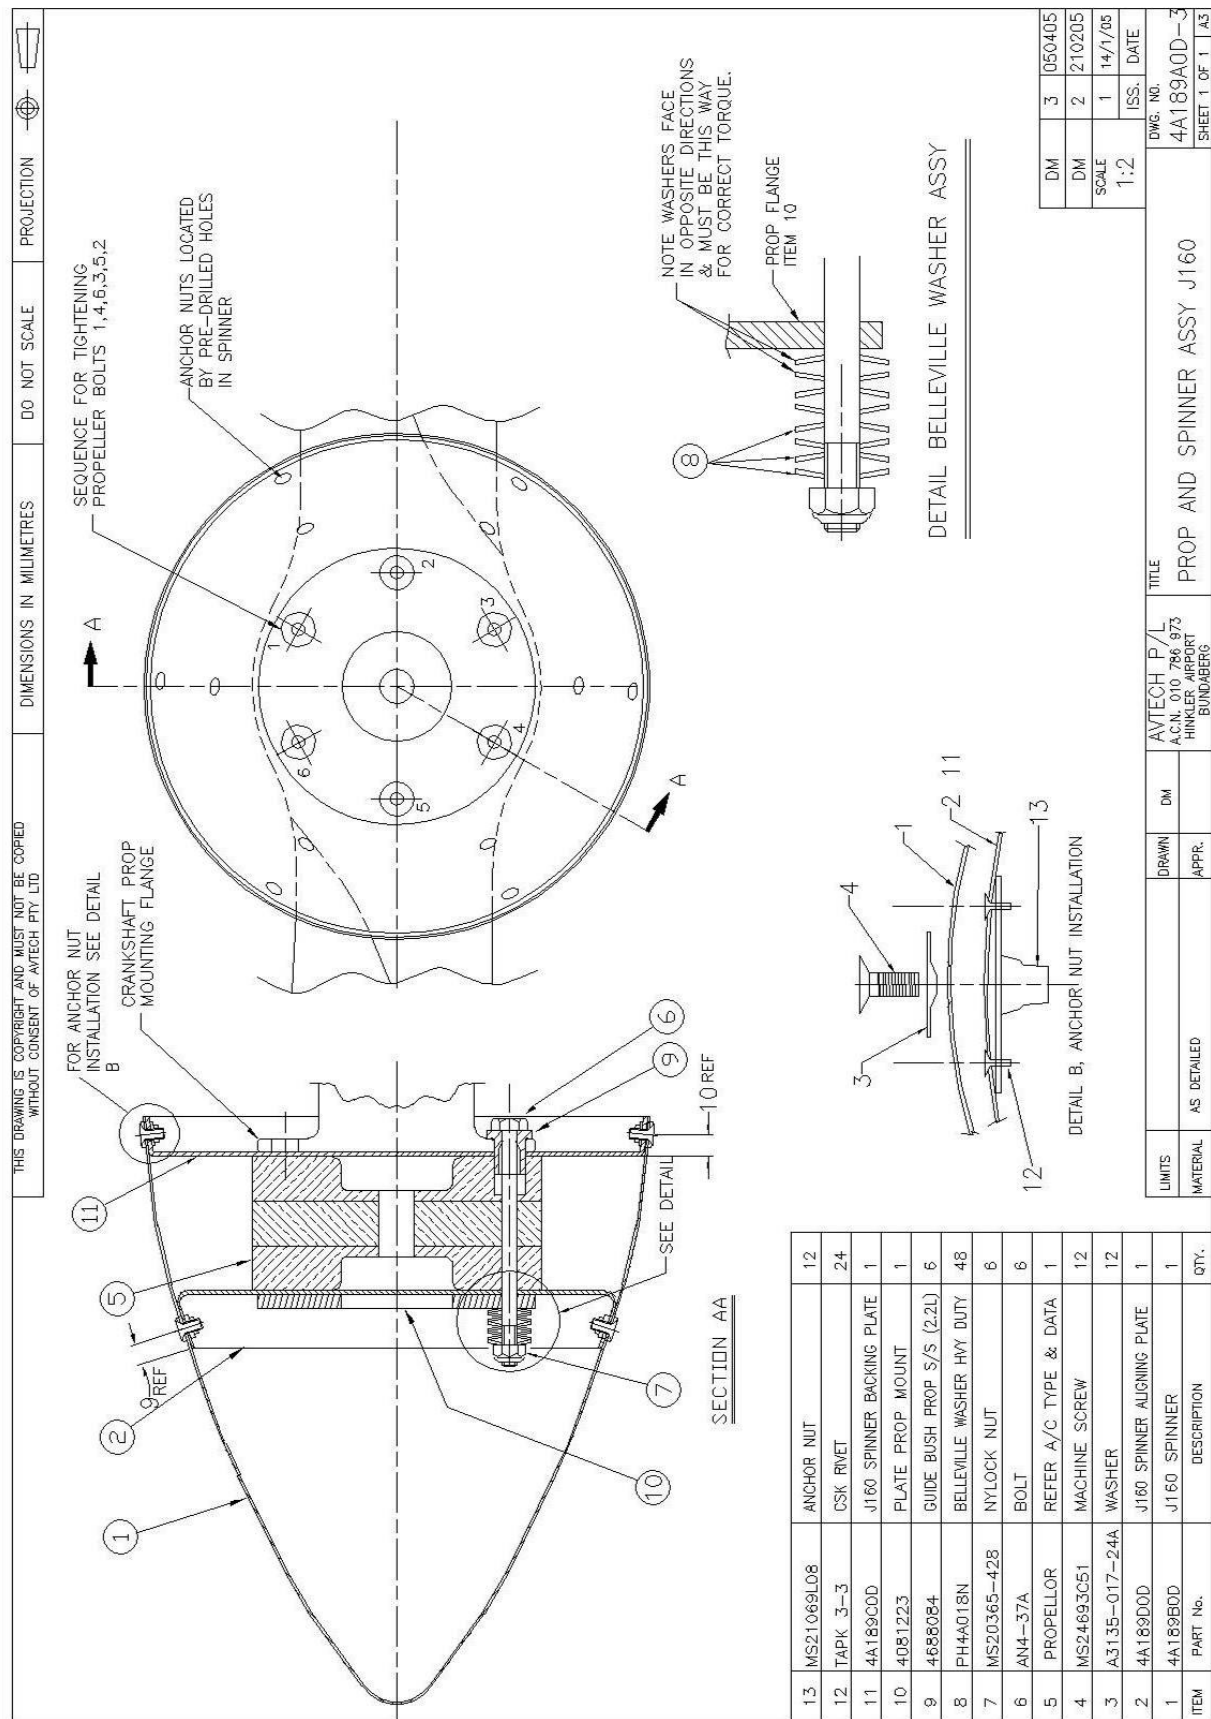

Figure 39. Jabiru Propeller & Spinner Installation
- Belleville washers may be used as shown in Figure 39 to allow for expansion and contraction of Jabiru wooden propellers.